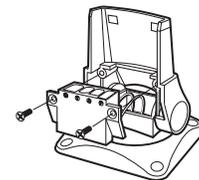

Figure 12
4. Insert the connector holder into place and fasten it to the mounting bracket using the two #6-32 x  $\frac{3}{4}$ " (19 mm) screws (Figure 12). **Hand-tighten only.**